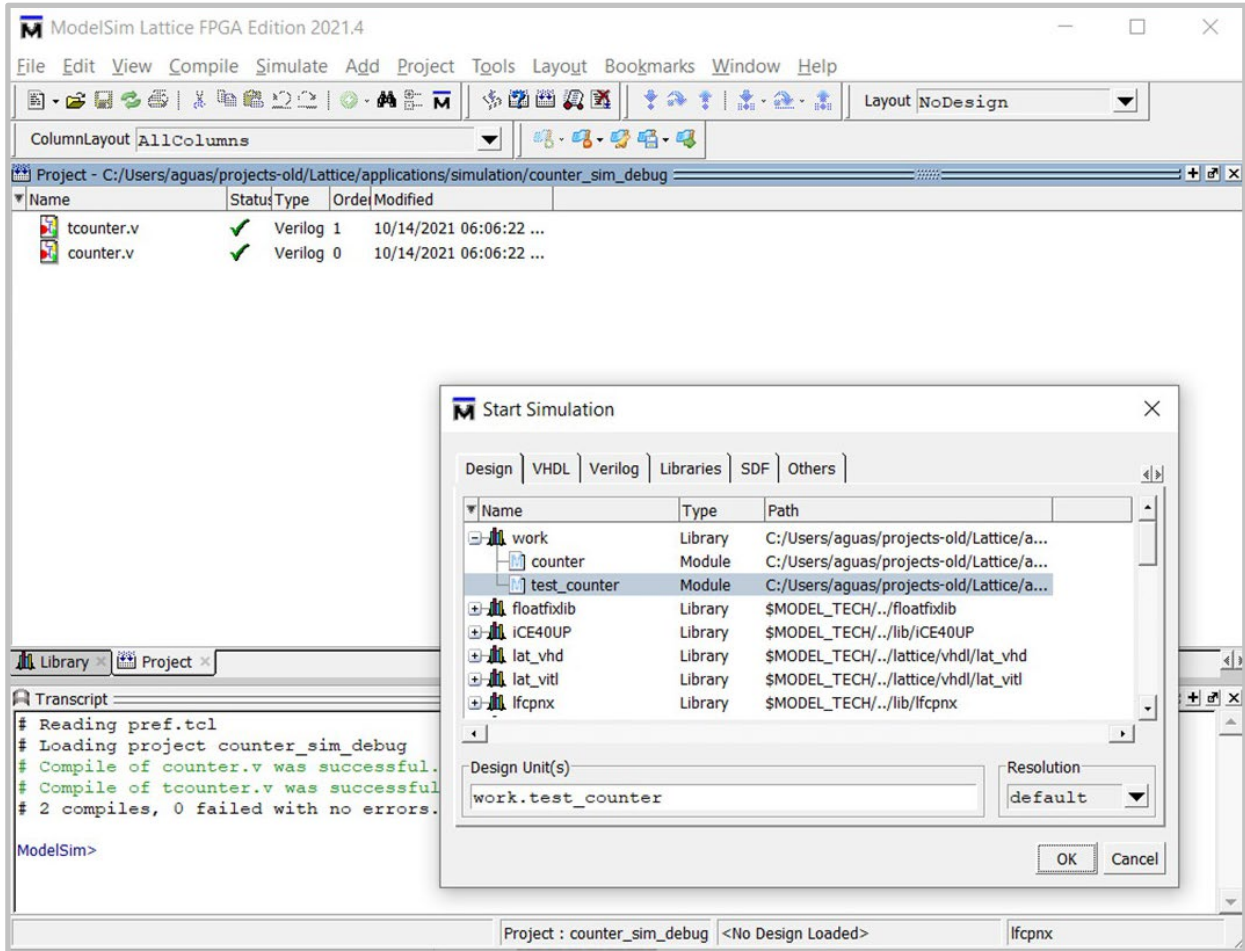

Figure 6: Starting a Simulation
- Form the top menu, select **Simulate > Start Simulation...** and select **test_counter.v** in the work library and click **OK**, see **Figure 6**.